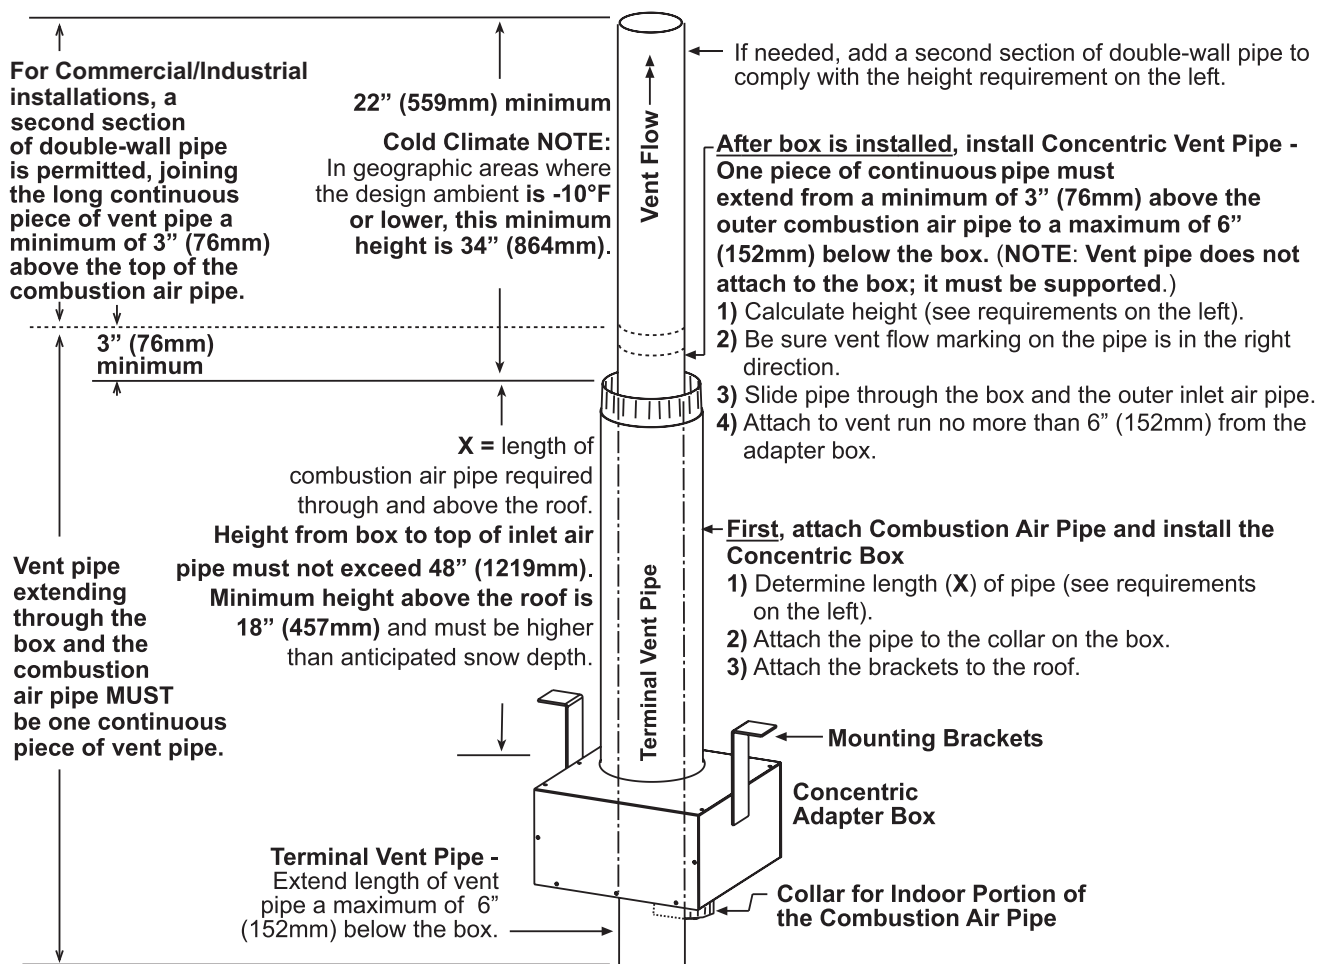

Figure 10. Combustion Air Pipe Installation
5. Connect outside section of combustion air pipe to concentric adapter box (see **Figure 10**):
- Determine length of combustion air pipe so that dimension X in **Figure 10** is equal to bracket length, plus roof thickness, plus anticipated snow depth. Ensure that length of combustion air pipe does not **exceed** 48 inches (1,219 mm) or does not extend **less than** 18 inches (457 mm) above roof.
6. Secure concentric adapter box to underside of roof (see Figure 10):
- a. Refer to Figure 10 to determine required length of continuous section of vent pipe. Determine length as follows:
- (1) Start with no more than 6 inches (152 mm) below concentric adapter box
- (2) Plus 6 inches (152 mm) through box
- (3) Plus length of bracket extending above box
- (4) Plus width of roof
- (5) Plus height of combustion air pipe above roof
- (6) Plus minimum of 3 inches (76 mm) beyond top of combustion air pipe
- (7) Total is minimum length of vent pipe section—if actual piece of vent pipe is longer, extend it further above combustion air pipe—do not extend it more than 6 inches (152 mm) below box